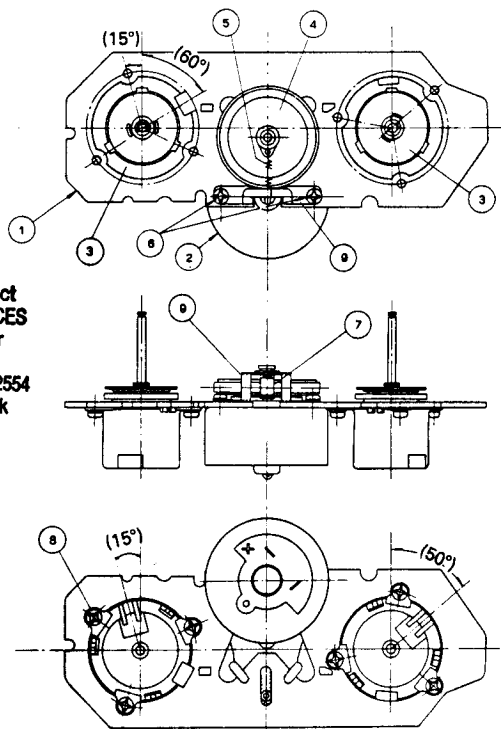

Figure 32.
- 1) Check that reel idler (4) is engaged with reel chassis (1) and reel idler spring (5) with the reel idler.
- 2) With care not to scratch the reel motor pulley 7, set the reel motor for exchange with two screws (XBPSD30P06J00) (Longer screw than this will damage the motor.) so that the reel motor terminal and the spring hook angle 9 align in the direction as shown in Fig. 32.
- 2) Move the reel idler to the center of the reel chassis as shown in Figure 32 and pull it toward the reel motor slightly. Then the reel idler comes off.
- 1) Fasten the replacing brake unit with three screws (XBPSD30P04J00) in the direction show in Figure 32.